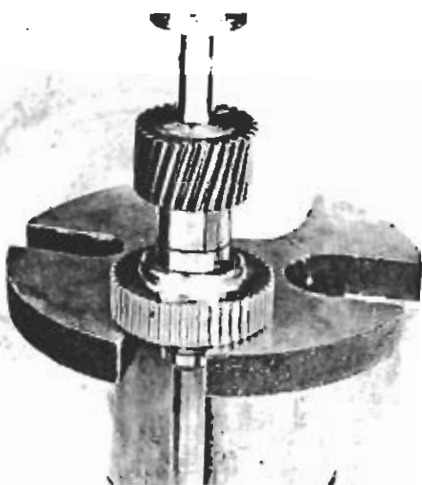

Figure 16 Press sun gear into clutch hub
**STEP 19** Assemble the woodruff key (29) into keyway provided in drive gear (30).
**STEP 20** Assemble drive gear to clutch hub (59) aligning keyway and key as parts are pressed together under an arbor press, figure 16.